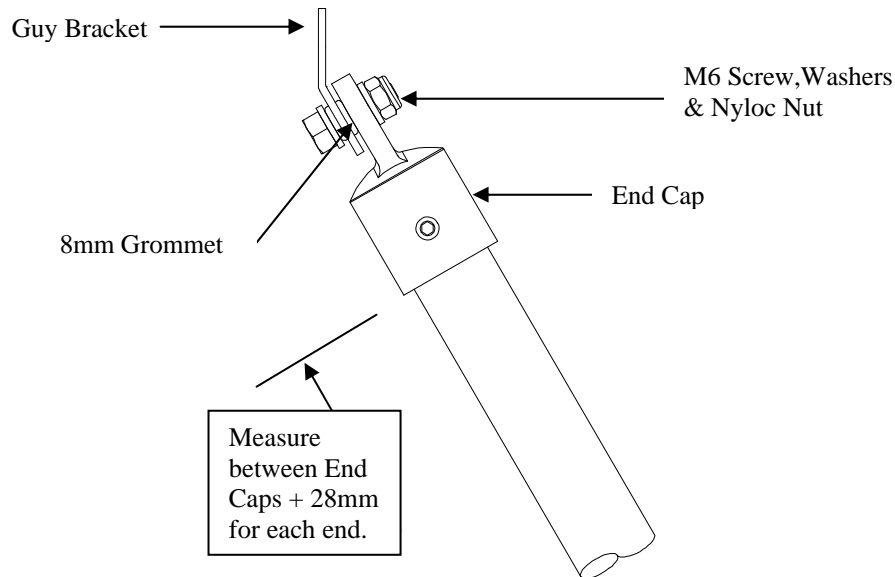
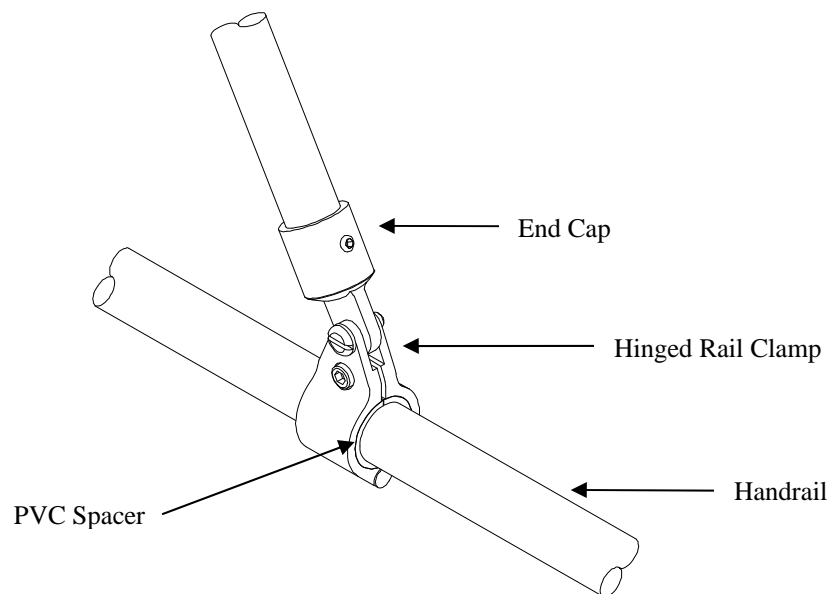

Figure 3
Figure 4
If this angle is exceeded then the stays should be cut down with a hacksaw. To determine the length fit the End Caps to the pole using the guy brackets supplied with the pole kit (see Fig.3) and the Hinged Rail Clamps and End Caps to the rail in the desired position (see Fig.4). Measure between the two and add 28mm x 2 to allow for the depth of the End Caps. Cut the stays to the required length and de-burr the cut ends.
3. Attach the top End Caps to the guy brackets using M6x20 screws, washers & nyloc nuts (Fig.3).
4. Attach the Hinged Rail Clamps to the rail in approximately the correct position with the PVC spacer between the clamp and rail-do not tighten at this stage (Fig.4).